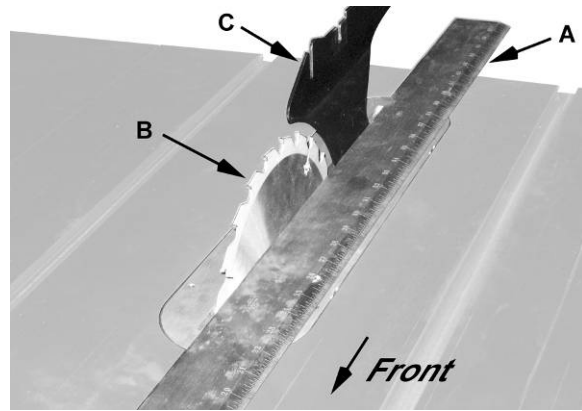

Figure 13
2. Place a *straightedge* (A, Fig. 13) on the table so it rests against the *blade* (B, Fig. 13) and *riving knife* (C, Fig. 13). Rotate the blade so the top of the blade tooth touches the straightedge.